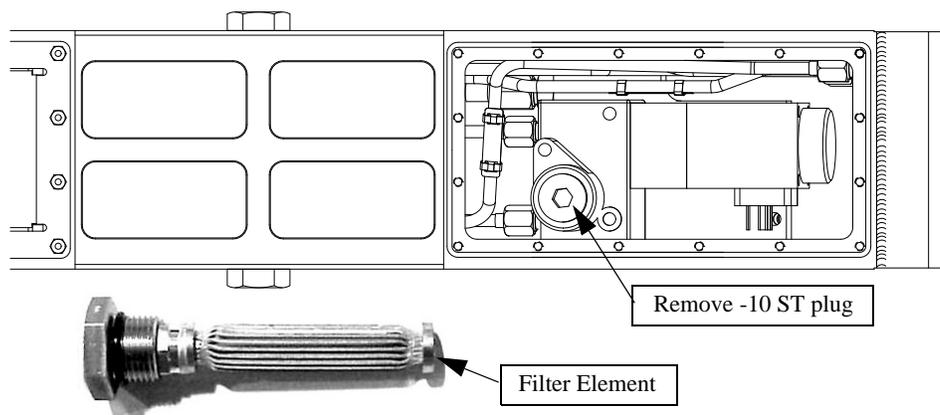

Figure 8 Accessing the filter assembly
The slave arm supply filter is located in the upper arm (see Figure 8).
1. Disconnect the compensator and drain the upper arm volume as needed to access the cover plate closest to the elbow on the topside of the upper arm (see Figure 8).
4. Remove the -10 ST plug to access the filter (see Figure 8).